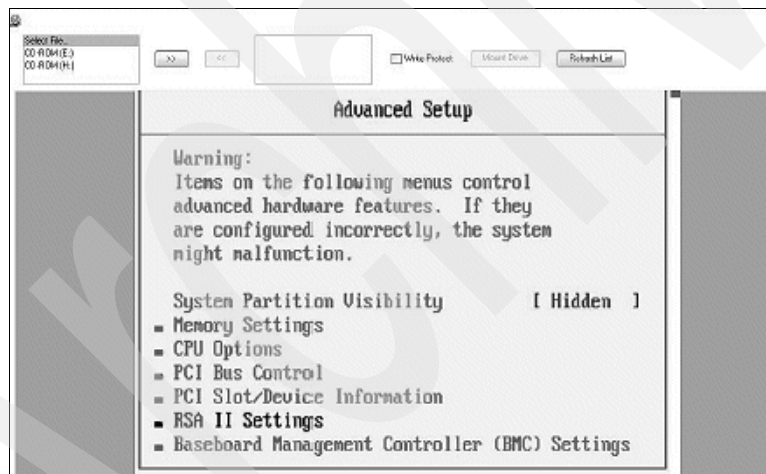

Figure 5-13 Remote Supervisor Adapter II: BIOS RSA II Settings
2. From the Advanced Setup menu (Figure 5-13), select **RSA II Settings**.